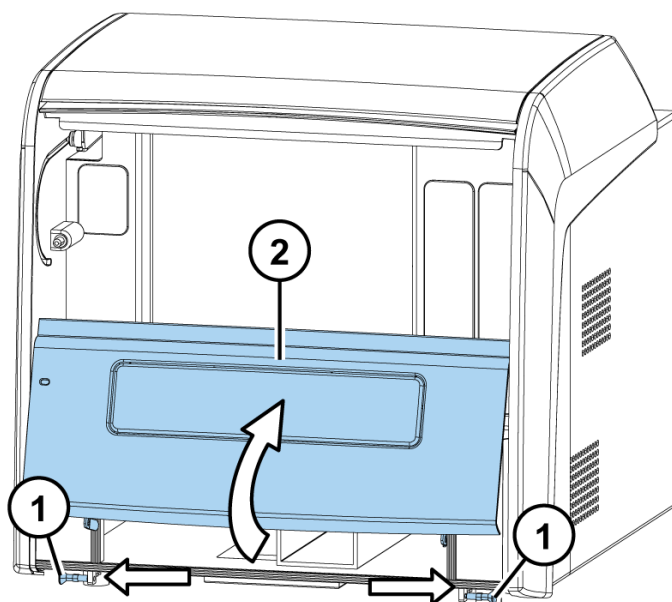

Figure 5–46 Front cover removed
3. If you suspect that liquids have entered the measurement chamber (Figure 5–47), remove the front cover by first pulling the two bolts (1), one on each side at the bottom, sideways, then turning the bottom of the cover (2) 30° and finally by lifting it off according to Figure 5–46.
4. If you have spilt infectious agents into the measurement chamber (Figure 5–47), decontaminate according to “Decontamination procedure” on page 80. Otherwise, clean the measurement chamber surface using a soft cloth or tissue paper soaked in a mild detergent solution, soap solution or 70% ethanol.